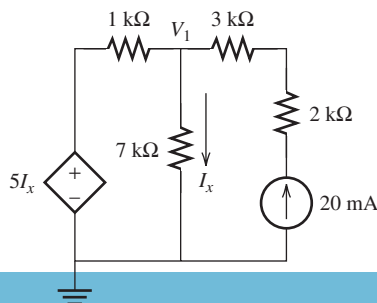

FIGURE P3.39 Circuit for Problem 3.39.
3.39 (H) Find I_x in Figure P3.39.